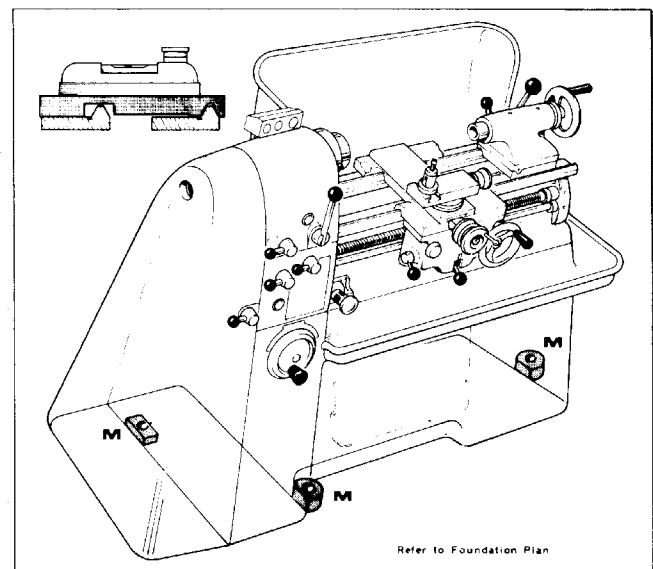

Fig. 5
Free-standing: Position lathe on the foundation, then raise it and set the compound-rubber pads under the mounting bases (M) Fig. 5. As the lathe normally stands firmly on three feet no further levelling should be necessary.